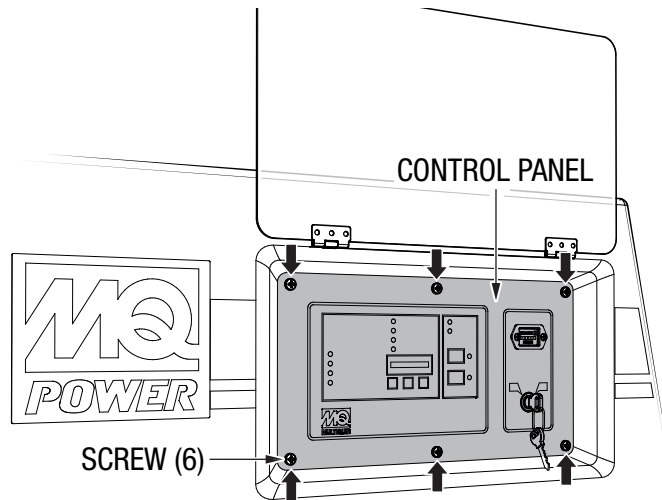

Figure 3. Open Control Panel
1. Remove and retain the six screws that secure the control panel to the frame (Figure 3). Gently lower the control panel to open.